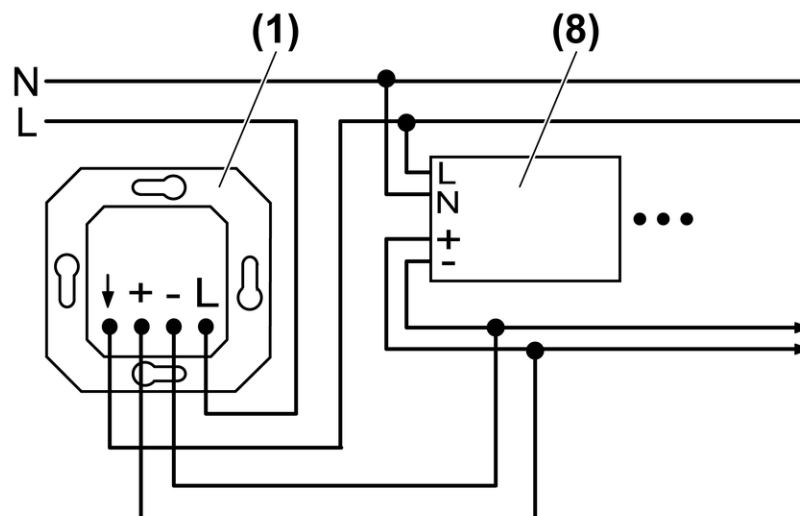

Figure 2: Connection diagram for potentiometer with switching function
- (1) Electronic potentiometer
- (8) Lamp operating device with 1-10 interface, electronic ballast
- (9) Extension, installation button
- Connect electronic potentiometer with switching function according to connection diagram (figure 2) or .